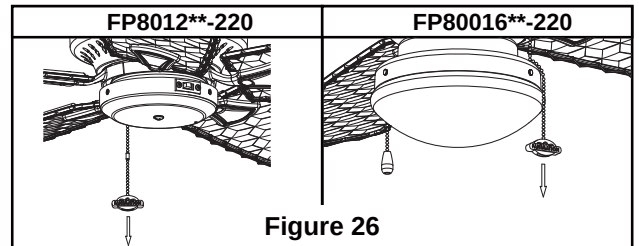

Figure 26
- ☐ 2. Check the operation of the fan by gently pulling on the fan speed pull chain. (Fig. 26)